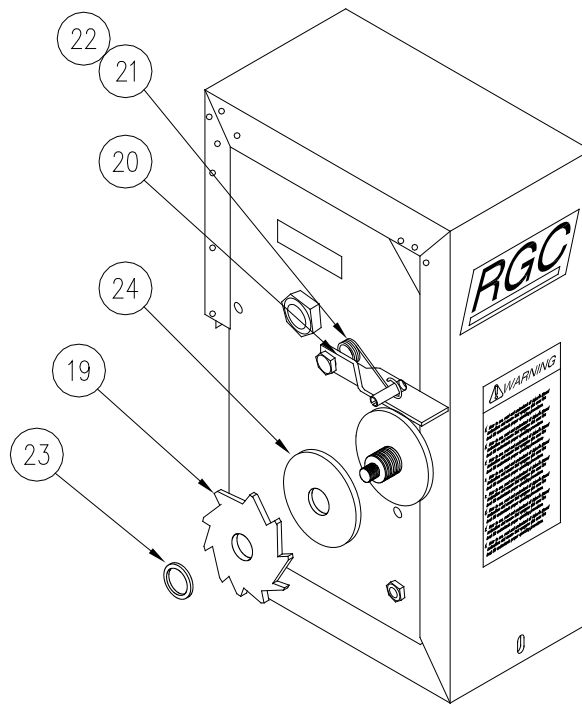

Figure 3-9.
1. Refer to Figure 3-9. Clamp winch to vertical leg “A”. Mount the winch such that any optional canopy cover will not interfere with removing and replacing the winch cover. Refer to Parts List in Section 7-5 for balloon numbers in Figure 3-9.